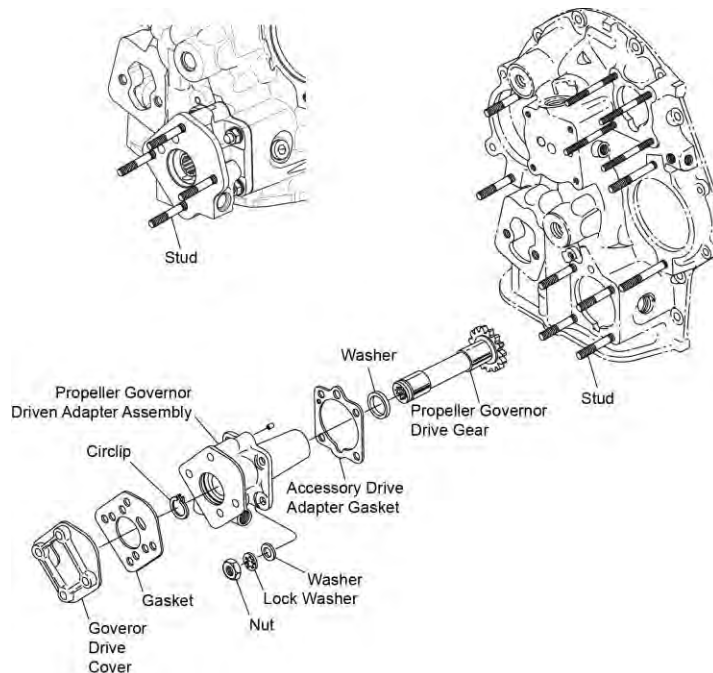

Figure 3
NOTICE: The propeller governor or propeller governor cover can be attached to the propeller governor drive adapter assembly (Figure 3) with either four bolts or four nuts on studs.
- (2) Remove the four nuts or bolts, four lock washers, and four washers from the propeller governor or propeller governor cover (Figure 3). Discard the lock washers.
- (3) Remove the propeller governor or propeller governor cover and governor gasket from the propeller governor drive adapter assembly. Discard the gasket.
- (4) Remove the four nuts, lock washers, and washers from the studs in the accessory housing (Figure 3). Discard the lock washers.
- (5) Remove the propeller governor driven adapter assembly and accessory drive adapter gasket from the accessory housing. Discard the gasket.
- (6) Remove the propeller governor drive gear from the propeller governor drive assembly.
- (7) Remove any remaining gasket material from the propeller governor or propeller governor cover, propeller governor driven adapter, and accessory housing mounting surface.
- (3) Install the pin (Figure 3) in the propeller governor drive assembly (if removed).
- (4) Install the propeller governor drive adapter assembly in the accessory housing with a new accessory drive adapter gasket (Figure 3).
- (5) Install the four nuts on the studs with washers and new lock washers. Torque the nuts to 17 to 19 ft.-lb. (23 to 26 Nm).
- (6) If studs are installed in the propeller governor driven adapter assembly (Figure 3):
- (7) If studs are not installed in the propeller governor drive adapter assembly (Figure 3):